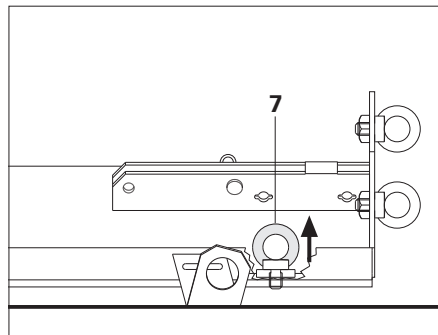

Fig. A4.02
Striking Bolt (7) must be pushed back. (Fig. A4.02)